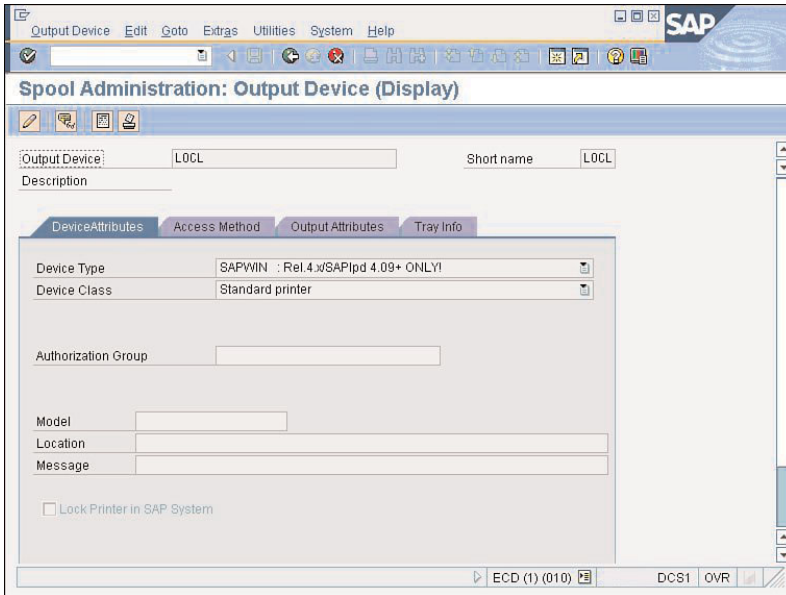

FIGURE 24.6 Select Device Type SAPWIN and verify Device Class is Standard printer on the Device Attributes tab.
3. Create New Printer LOCL (Output Device, Create) and set up with the parameters for DeviceAttributes, as shown in Figure 24.6.